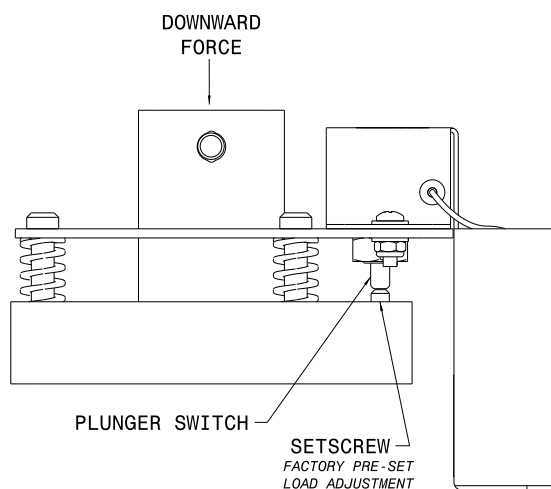

Figure 3
2. Depress the plunger switch to check electronic circuit. The alarm will sound when the switch is engaged. (see Figure 3)
3. Test alarm by slowly applying an evenly distributed force of 100 to 150 lbs (45.36 to 68.04 kg) across the top of the load alarm. The top plate of the load alarm kit will lower and engage the plunger switch, A loud pulsating alarm will then sound. If alarm does not sound, refer to the Troubleshooting section. (see Figure 3)